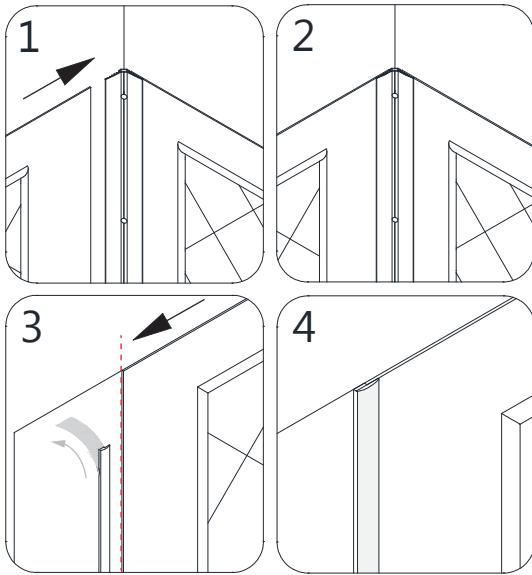
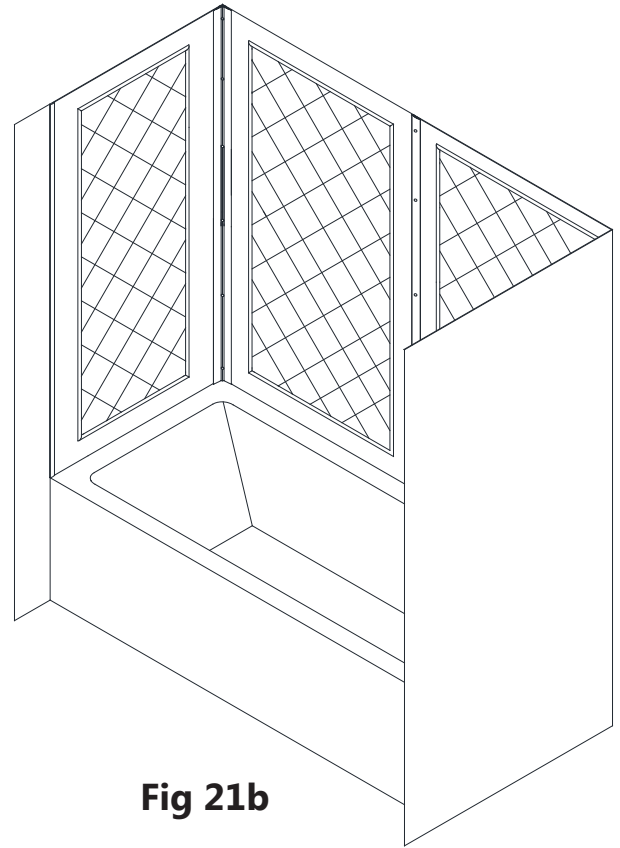

Fig 21a
Fig 21b
21. Repeat Step#18 to install the second **Side Panel (#01)**, tucking the **Side Panel (#01)** behind the corner cover and fully tightening the screws. **(Fig 21a and Fig 21b)**